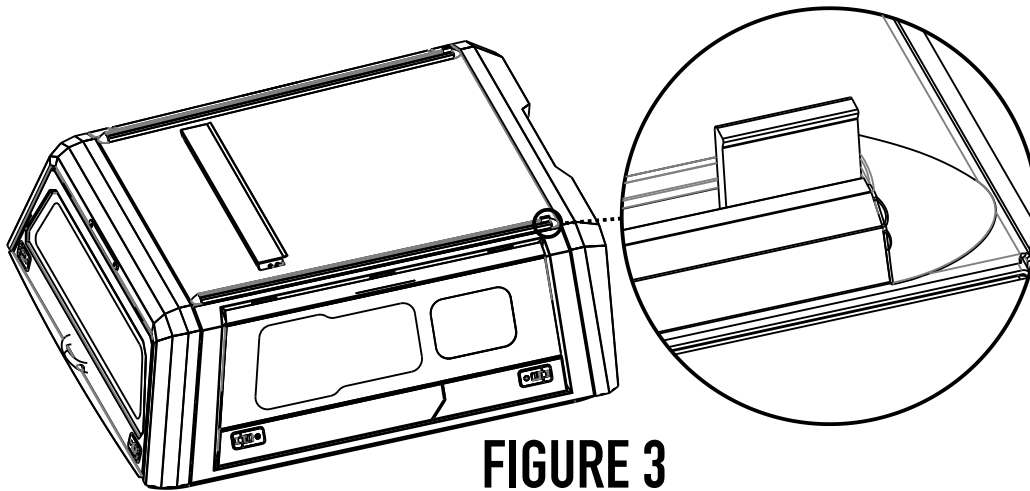

FIGURE 3
1. PLACE THE 2 LOCATING GAUGES INTO THE ROOF RAILS AND SLIDE UP AGAINST THE FRONT END CAPS. [SEE FIGURE 3]